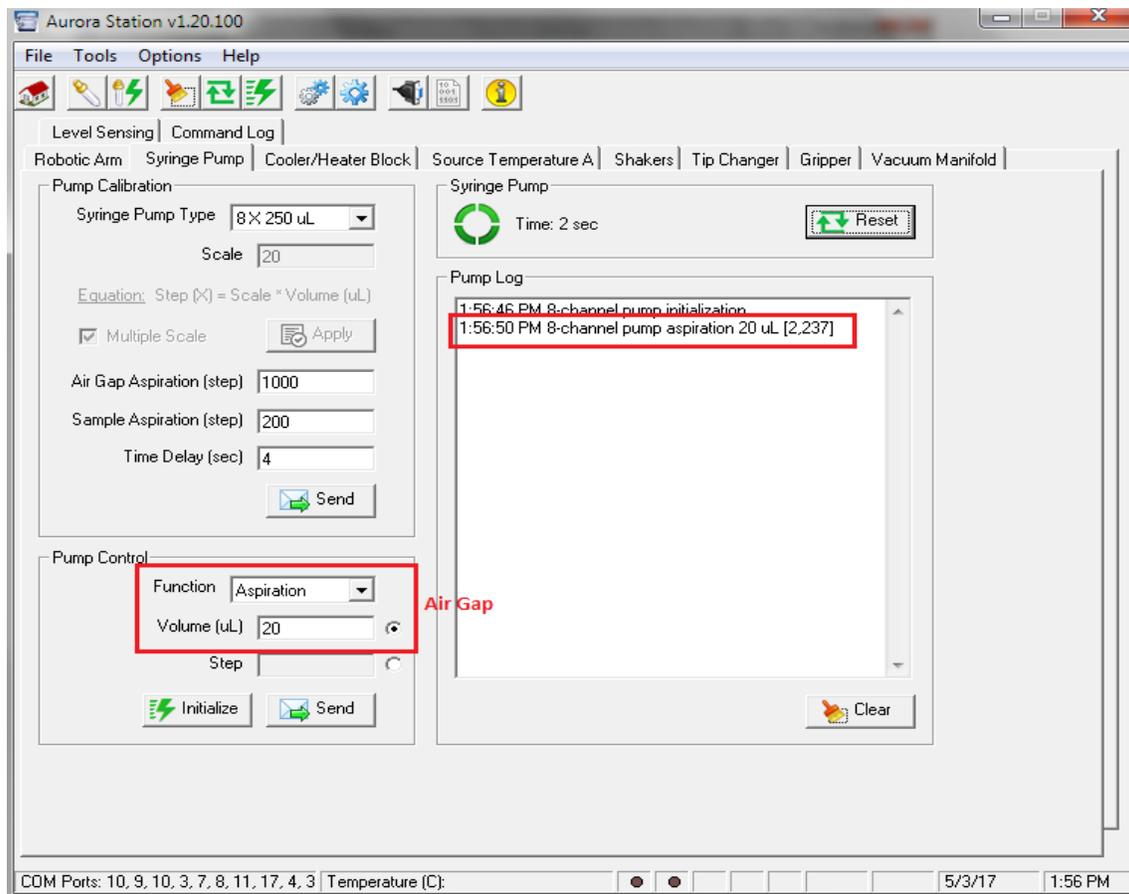

Figure 9-55 Syringe Pump –Aspirate 20µL Air-gap
6. Add a 20µL air-gap in the volume column and hit send (there will be volume & steps displayed in the log table on the left. (*Figure 9-55 Syringe Pump –Aspirate 20µL Air-gap*)